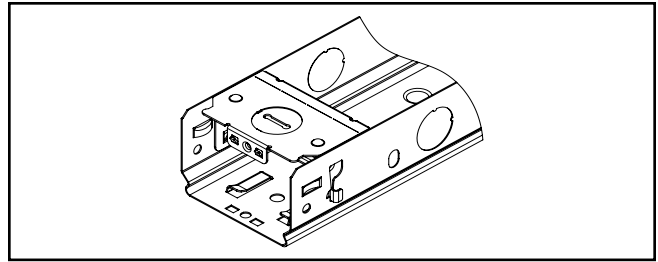

Figure 3.
2. Bend the row aligner and separate it from end (Figure 3.).